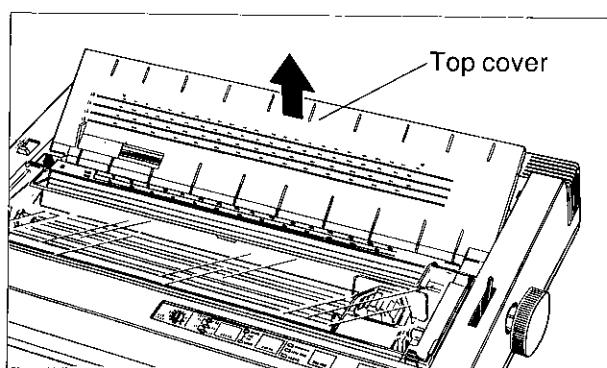

Figure 2.6A Removing the Top Cover
- Remove the top cover as shown in Figure 2.6A.